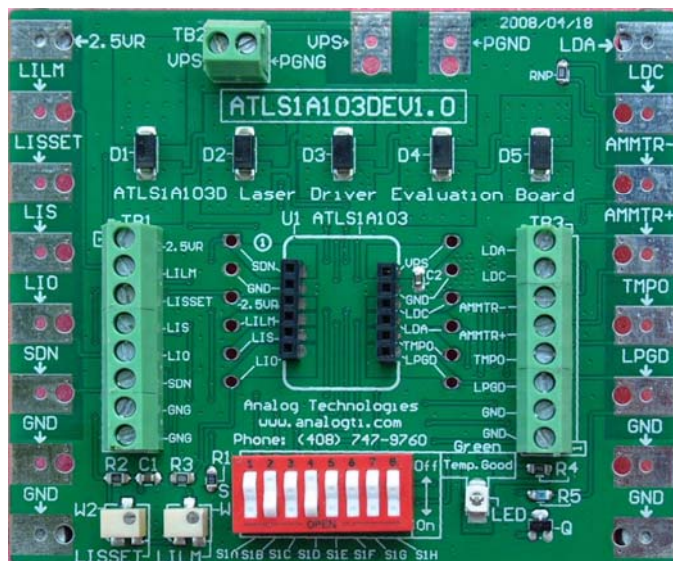

Figure 1. Physical Photo of ATLS1A103DEV1.0
The ATLS1A103DEV1.0 Evaluation Board is consisted of a complete application circuit for driving a laser diode. It can set the output current, the output current limit, has an LED for indicating the working status of the controller, has numerous connection pads and terminal connectors for making connections with external components and instruments. Its physical photo of ATLS1A103DEV1.0 is shown in Figure 1.
1. Hook up the power supply. There are 2 solder pads in the upper center area on the edge for connecting the power supply voltages. The connection can be done by clipping or soldering on the pads, or use the screws to lock in 2 wires through the terminal block TB2, see Figure 1. Usually the power supply is set to 5V. If the output maximum voltage is for sure know to be always at low value, such as 2.5V, a power supply of about having 1V higher voltage than the maximum output voltage, i.e. 3.5V, can be used. When using a lower voltage power supply, the power consumption of the controller will get smaller, thus, the controller will be working under lower temperature rise.